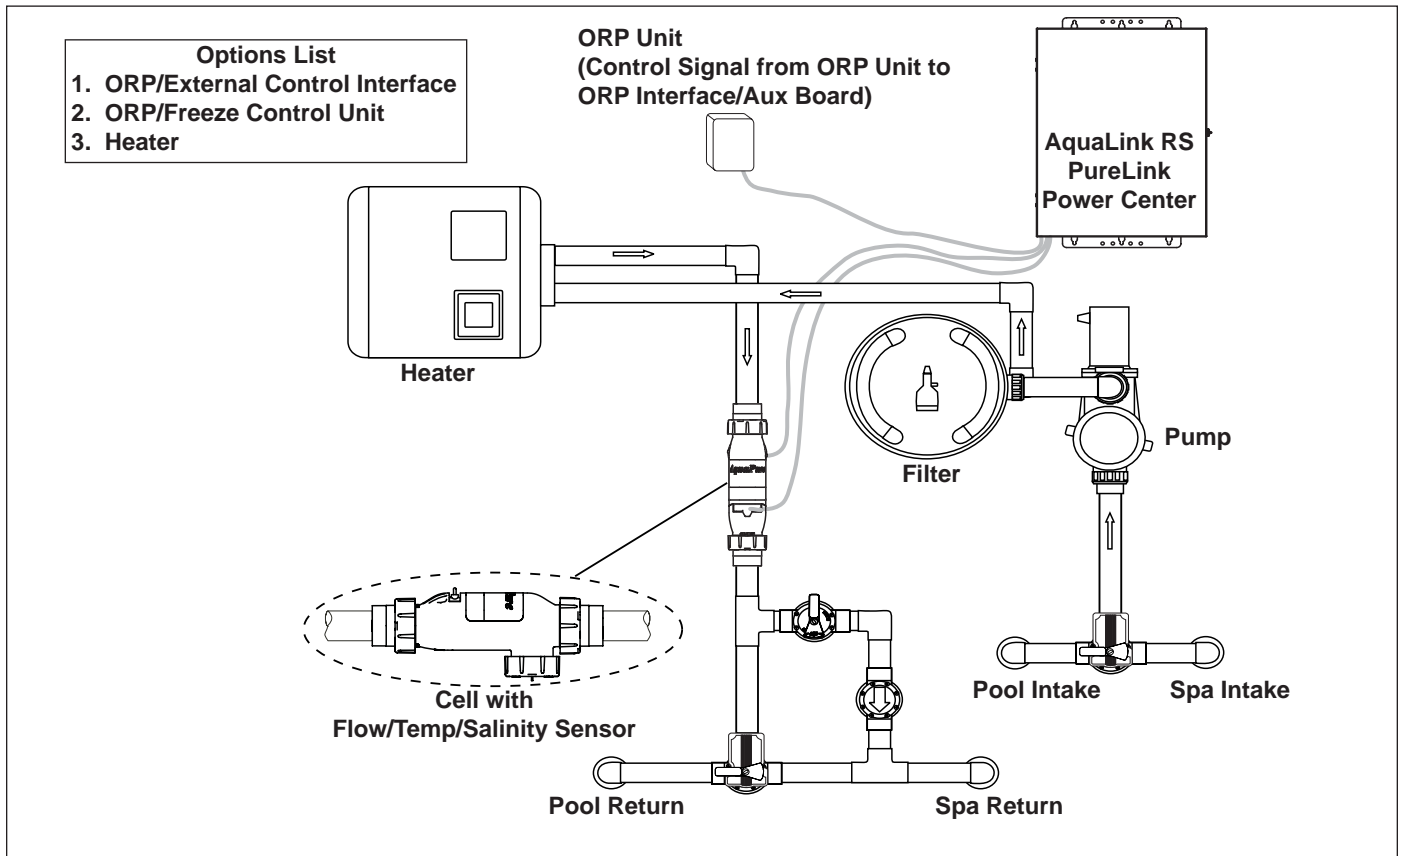
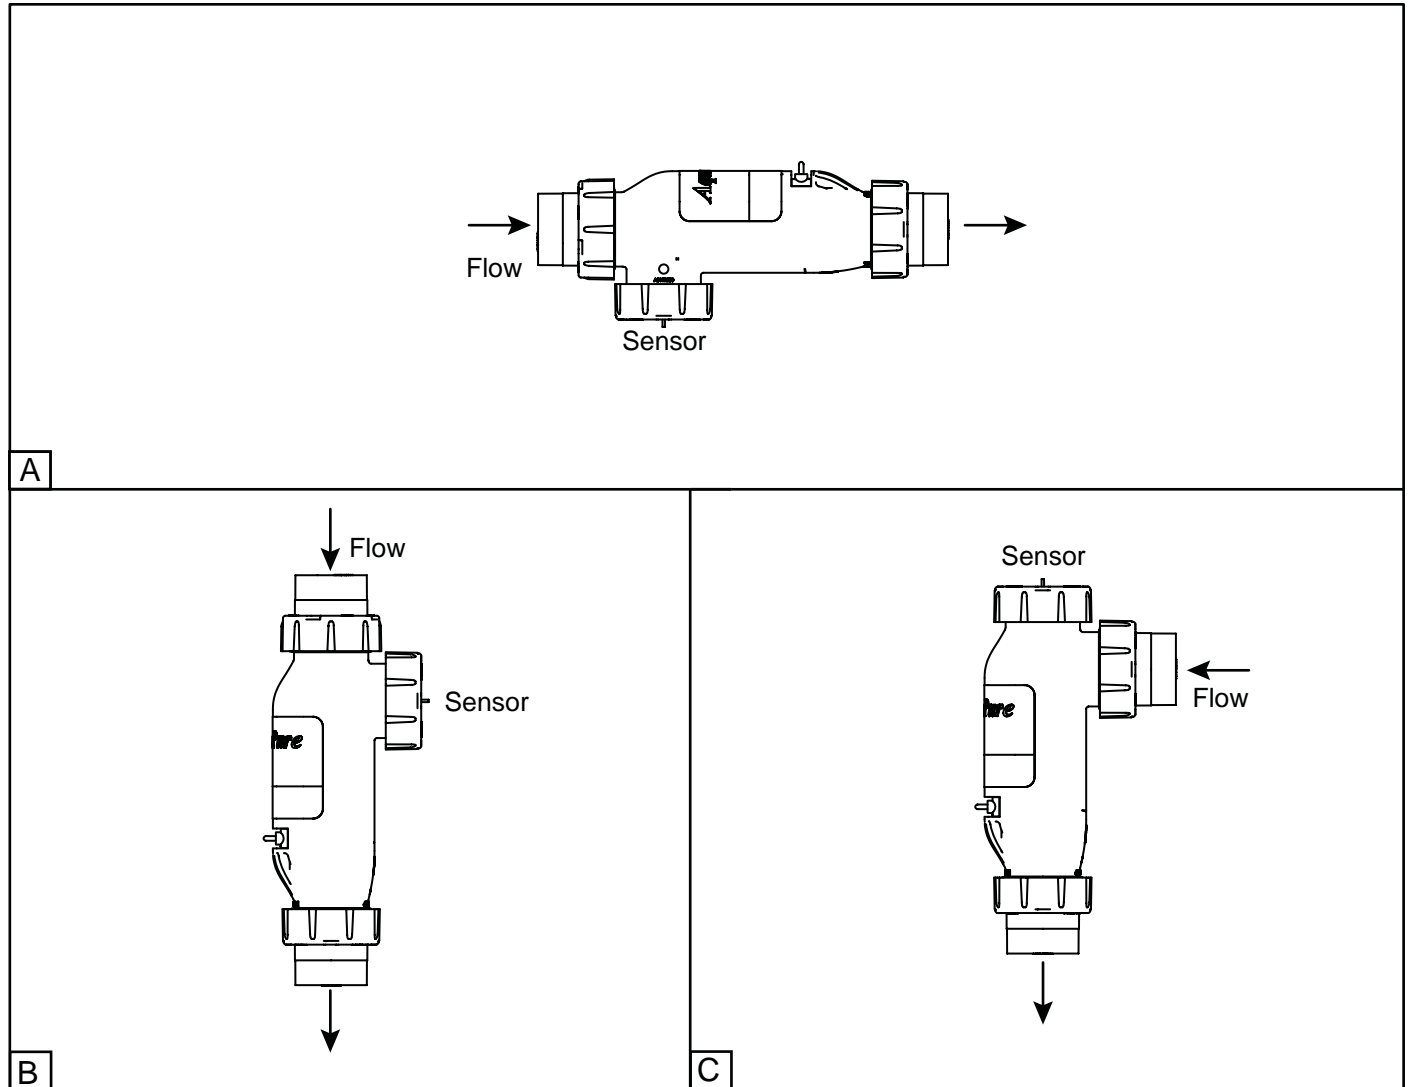
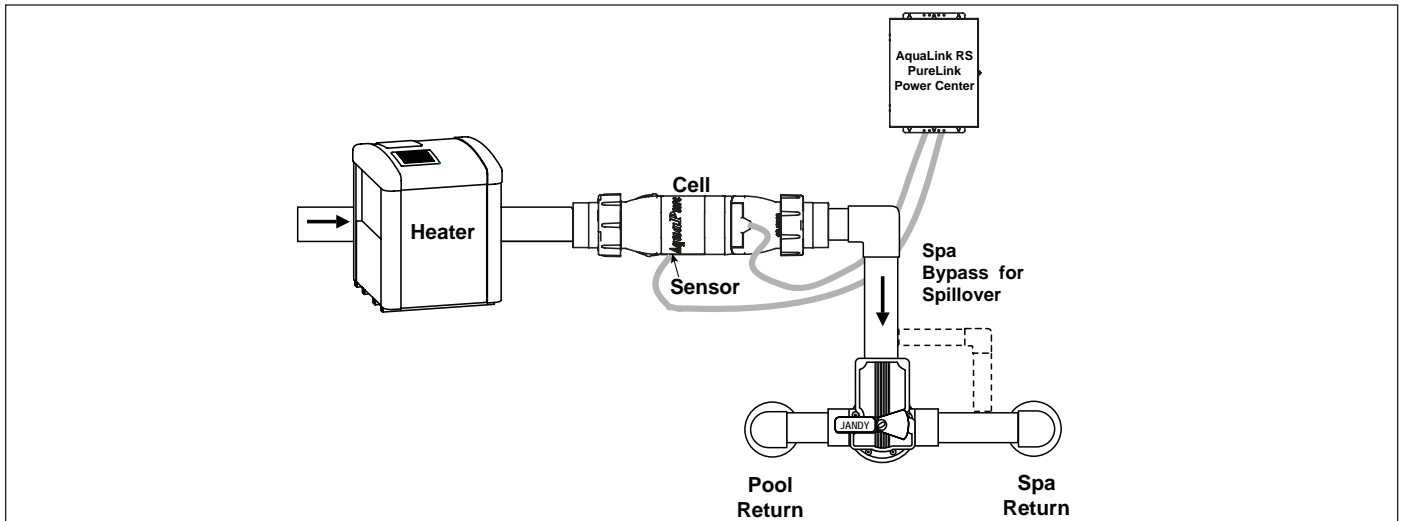

Figure 1. Typical PureLink Installation With Options
Figure 3. Chlorine Generator Cell and Sensor Orientation with Flow Direction
Figure 4. Recommended Plumbing Configuration for Pool/Spa Combination Systems
It is recommended that the water Flow/Temp/Salinity Sensor is installed in the same piping as the electrolytic cell, without any valves or diverters between them. (See Figure 1).
The Flow/Temp/Salinity Sensor must be mounted as shown in Figure 3.
The preferred installation is that the Cell and Sensor are plumbed in the common line after (downstream) the heater. The Sensor is designed to be plumbed into the 3-Port Cell. Figure 4 illustrates the recommended plumbing configuration, which results in the most reliable operation.
2. It is recommended that the Flow/Temp/Salinity Sensor and Electrolytic Cell be installed in the pool return line after the filter and heater. The Cell can be installed in either a horizontal or a vertical position. See Figure 3.
3. Position the Flow/Temp/Salinity Sensor and Cell in the recommended position (see page 12 Figure 3, page 13 Figures 4 and 5, page 7 Figure 1).
4. Locate a suitable section of pipe, approximately 17 inches (432 mm) long or follow the recommended plumbing diagrams beginning on page 13, Figures 4 and 5. The Flow/Temp/Salinity Sensor cable and Cell DC cord *must* be able to reach from the power center to this section.